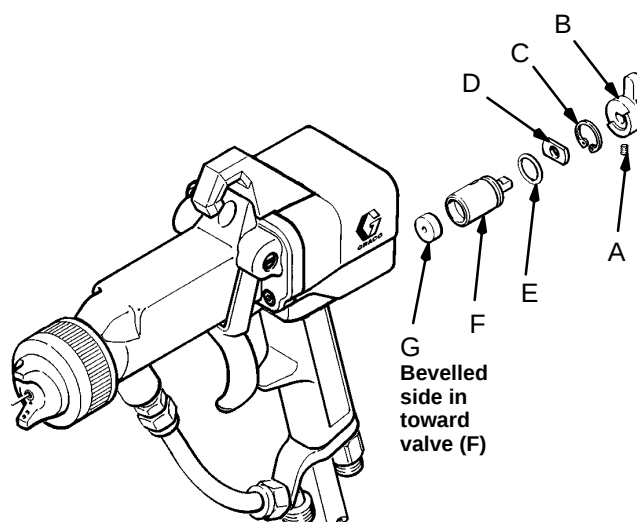

Fig 1
1. Loosen the set screw (A) with the 2 mm hex key provided with the gun. Remove the lever (B) from the valve. See Fig 1.